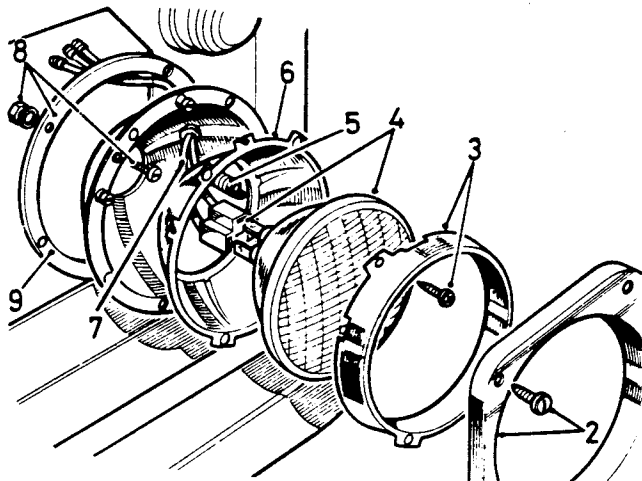

Fig O5.9
(2) Refer to Fig O5.9. Remove the headlamp Bezel (2).
(3) Remove the headlamp rim (3).
(4) Disconnect the headlamp leads at the plug connector and withdraw the light unit (4).
(5) Disconnect the spring from the headlamp shell (5).
(6) Withdraw the headlamp shell (6) by rotating it clear of the slotted locations.
(7) Disconnect the headlamp leads (7) at the snap connectors behind the radiator grille.
(8) Remove the headlamp mounting shell (8).
(9) Withdraw the gasket (9).